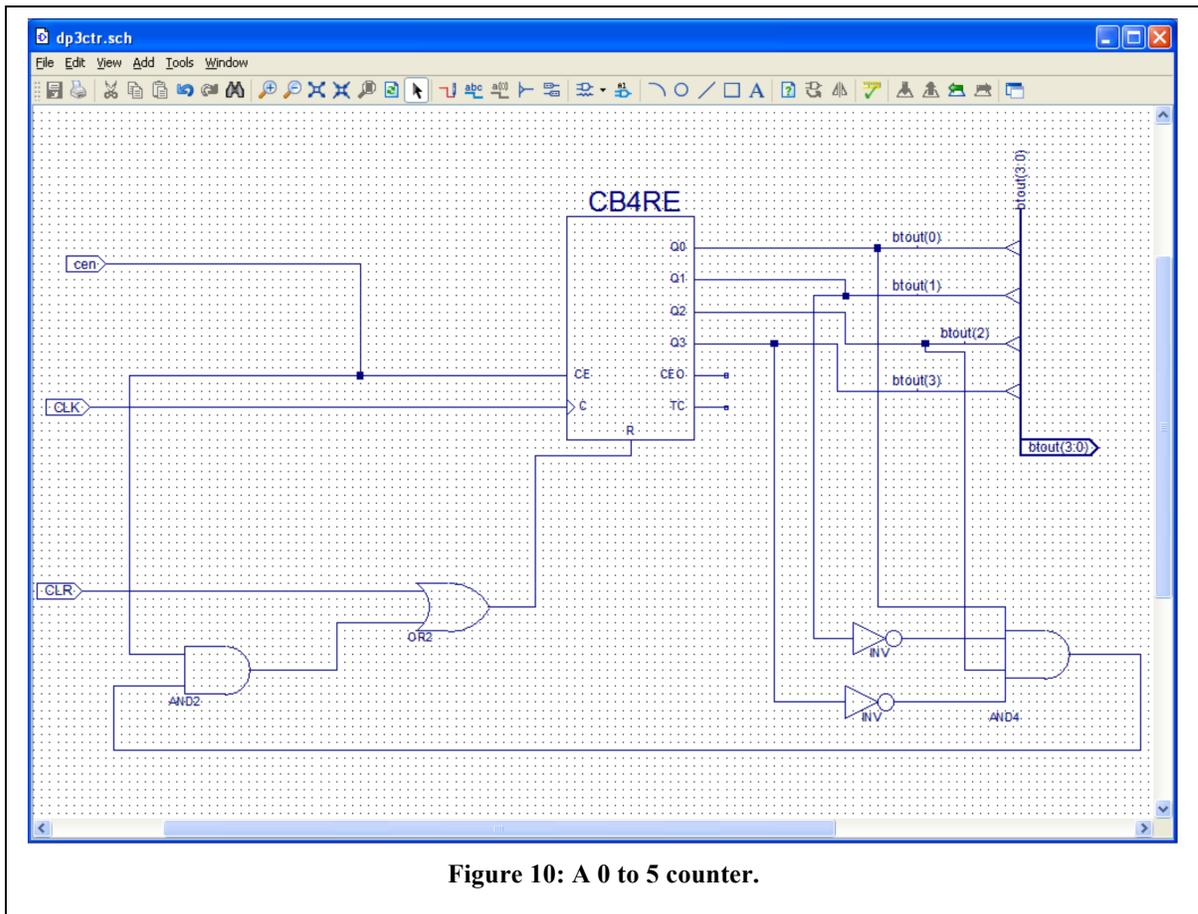

Figure 10: A 0 to 5 counter.
One of the huge advantages of this form of design is that macros of arbitrary complexity can be constructed, stored and reused in future designs. Our collection of symbols contains many such macros. For our next design we will use one of them, CB4RE, a 4 Bit Cascadable Binary Counter with Clock Enable and Synchronous Clear, to construct a counter that will count from 0 to 5, reset and continue. We will then save it as a new macro to be used in our next experiment. The design in Figure 10 is an implementation of such a counter.
Create the schematic entry in Figure 10; check for errors and save the file. The device that we wish to build will have 3 inputs, ce for Clock Enable, clr for Clear and clk for Clock. Outputs will consist of a bus 4 bits wide, btout(3:0). Start a new project with schematic entry at the highest level. Enter your design in the usual fashion naming the inputs ce, clk and clr. To generate a bus for output draw a line using the wiring tool and give it a name btout(3:0). The program will change the line into a thicker, bus, line in correspondence with the name. Attach the bus taps as indicated and name them btout(0) to btout(3) using the “net name” tool under the “Add” menu. Be sure to click directly on the wire for the name to apply. You can use the “increase the name” feature to ease the amount of typing.